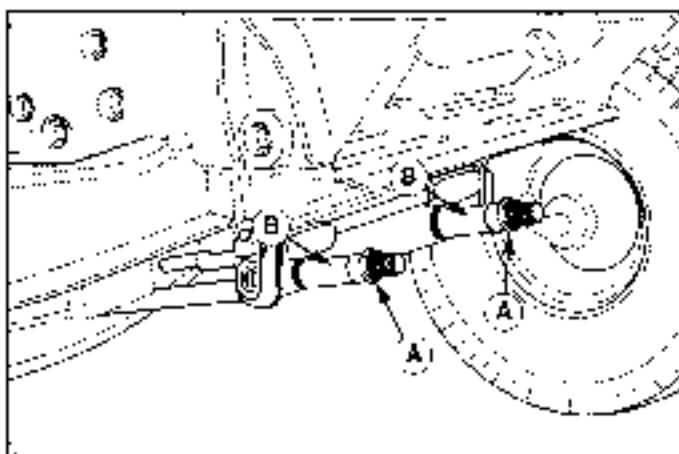

Figure 27. Leveling the Mower Front-to-Back
- To raise front of mower deck, tighten locknuts (A, Figure 27) against spacers (B). To lower front of mower deck, loosen locknuts (A). Lock-nuts must be turned evenly on both sides to keep deck level.
- Re-check the blade measurement; then tighten the front locknut (A) against the bracket to secure.